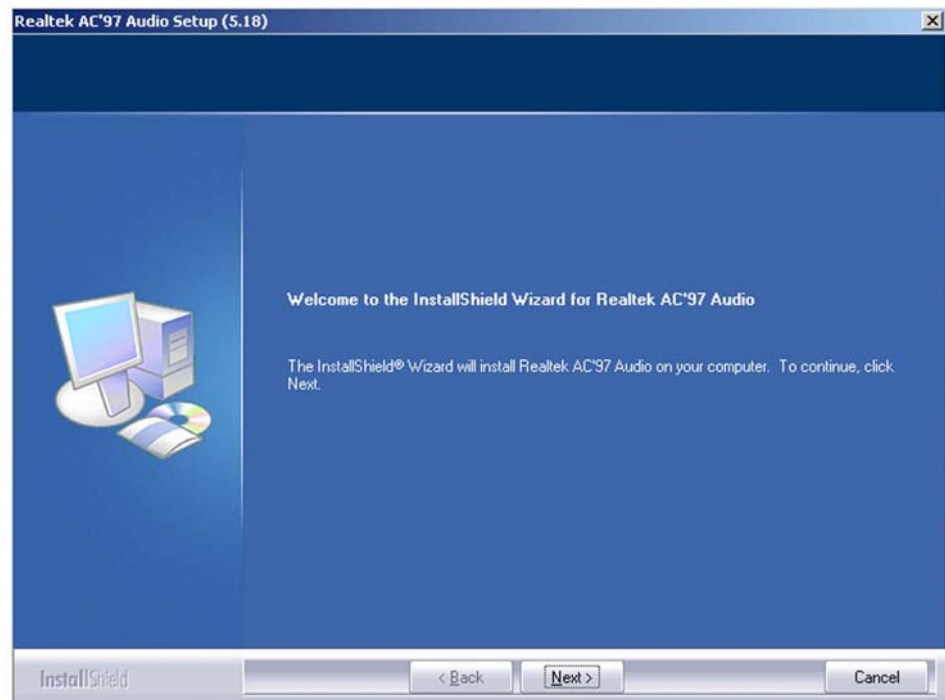
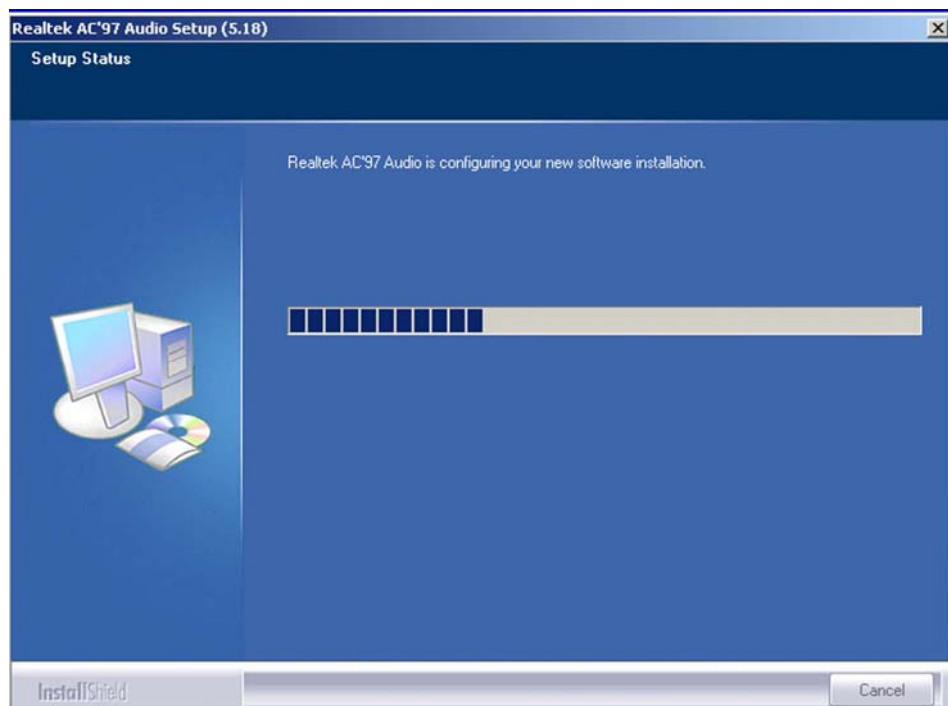

Figure 6-11: Audio Driver Welcome Screen
Figure 6-12: Audio Driver Software Configuration
Step 4: After install shield is prepared, the welcome screen shown in **Figure 6-11** appears. To continue the installation process, click the “**NEXT**” button. The install shield starts to configure the new software as shown in **Figure 6-12**.